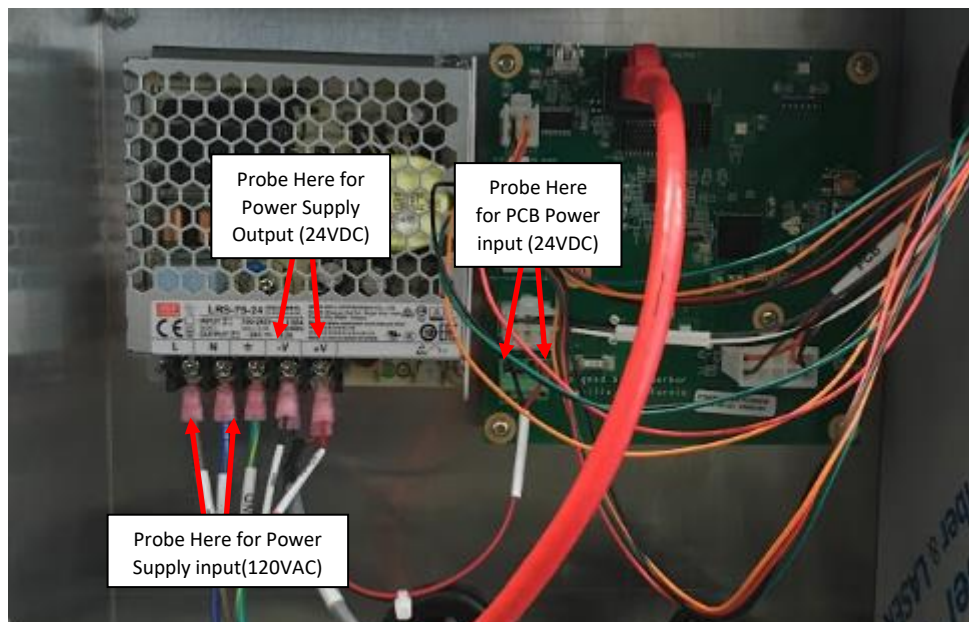

Figure 15: Probe locations shown.
3. If the voltage does not change by use of the potentiometer on the power supply, use a DVOM to check the voltage output at the Power Supply (-V and +V) to verify it is at 24VDC. See Figure 15. Follow the harness to the board and verify that the PCB is also getting 24VDC. See Figure 15.
- b. If the voltage output on the DVOM is not at approximately 24VDC, the Power Supply may be damaged and needs to get replaced. Verify the input is getting approximately 120VAC with use of DVOM and follow the High Voltage Power Harness to ensure it is not damaged if input does not have correct voltage coming in. See Figure 15. Refer to **Symptom 1: Screen Blackout Step 2** to verify the Power Supply is malfunctioning and replace if necessary.
3. Next verify that the PCB has LED Lights on, if it is not on, check the harness from the power supply to the PCB is not broken. This can be verified by probing the Power Supply Output and the PCB Power Input Terminal. **See Figure 15.**